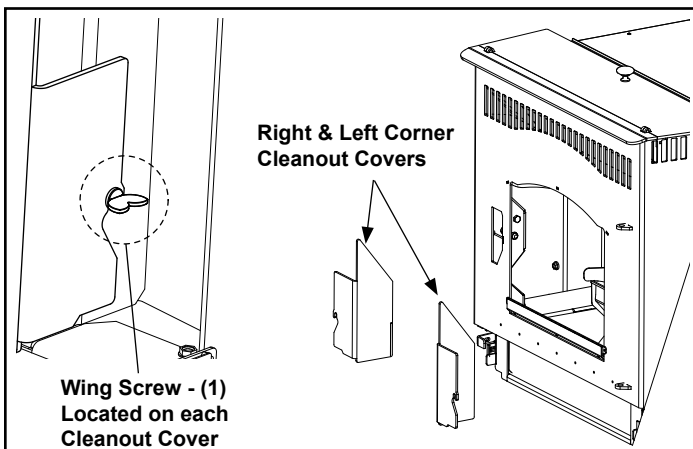

Figure 3.6
1. Remove the left and right corner cleanout covers by removing the wing-screws (one per). Figure 3.6.